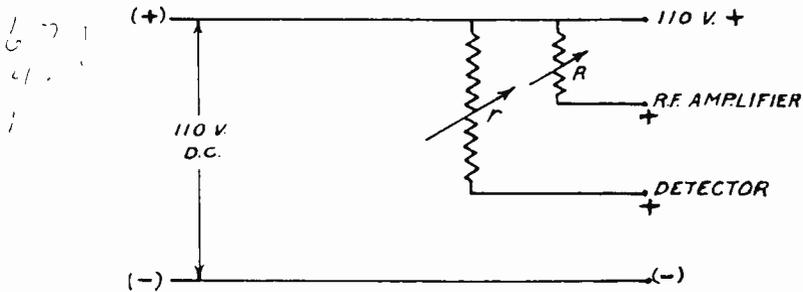
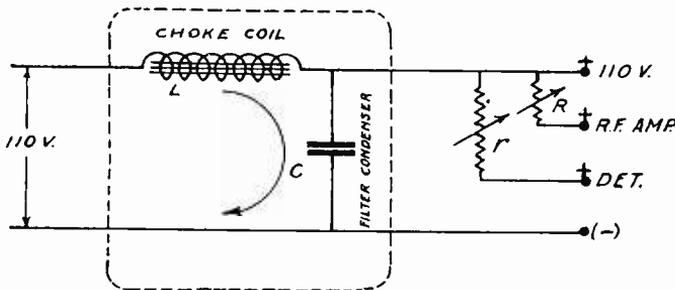
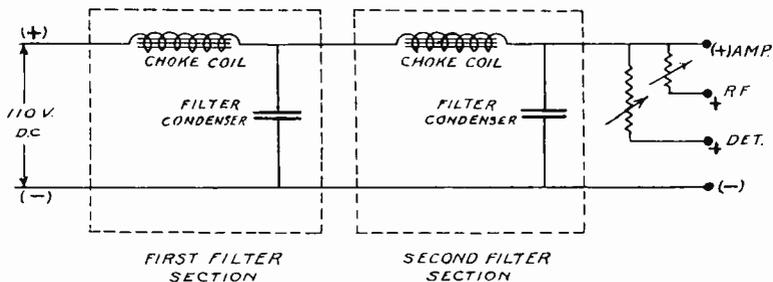
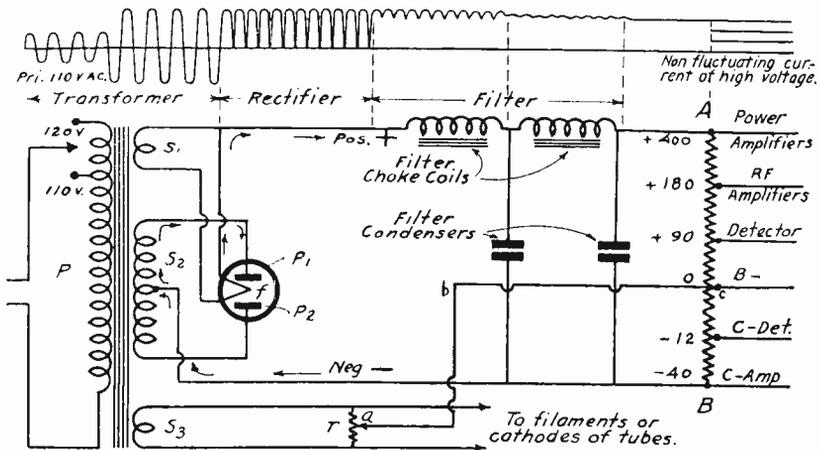

Fig. 17—Illustration Showing How Various Voltages are Obtained From 110 Volt D. C. Line.
Fig. 18—One Section Filter Arrangement for 110 Volt D. C. Line.
Fig. 19—Two Section Filter for 110 Volt D. C. Line.
Fig. 25—Schematic Diagram of a Full-Wave Rectifier Power System.
Suppose you look at Fig. 17 for a moment. This will explain the method very easily. First we have to find out how much resistance is required in the connection which goes to the R. F. amplifier (R. F. is an abbreviation for radio-frequency). Next we have to know how much current the radio-frequency amplifier tubes take. As a rule this should not be high; we may assume that about 5 milliamperes is the most they will take in a well designed receiver. Suppose also that the receiver is designed to have the R. F. tubes operate with
67.5 volts on the plates. This is all the information we need in order to find out how much resistance we need at R in Fig. 17.
This much voltage must be used up in the resistance r in Fig. 17. The value of the required resistance can be obtained the same as above, that is
simple form shown in Fig. 17. We must modify or change this arrangement in some way, so as to get rid of this noise, which is due to the variations in the generator.
As you recall, sometime ago, when we were learning about condensers and coils, we explained how the coil tries to keep up the current when it is decreasing, and how it tries to hold it down when it is increasing. We also explained how the condenser acts in just the reverse manner. It tries to increase the current further when it is increasing, and to decrease it more rapidly when it is decreasing. It seems, therefore, that some good might come if we should connect a condenser and coil in the circuit of Fig. 17, as this might cut out the noise or the hum. This is exactly what we have done, as is shown in Fig. 18.
The large coil marked L is called a *choke* coil because it “chokes” out these ripples. The condenser marked C is called a *filter condenser*. The whole arrangement enclosed by the broken line in Fig. 18 is called a *filter*, because it “filters” out the ripples. Figure 18, therefore, represents a complete “B”
Sometimes, when the ripple is very bad, that is, when the variations of the current are rather large, the filter of Fig. 18 may not be sufficient. When this is the case, it is necessary either to use a larger choke coil and condenser, or to use *two filter sections*. Such a circuit is shown in Fig. 19, where the separate filter sections are enclosed by broken lines.
direct current systems is a small one. The next problem is to devise an eliminator which will supply direct current without a ripple, when it is operated on alternating current. Let us suppose that we have a source of direct current which has quite a large ripple in it. It makes no difference where we get it, we can always apply to it the filter system of Fig. 19, and finally get the ripple out of it. Of course we may
trons, and when one or the other of the additional electrodes is charged positively, it attracts the electrons to it and a current flows through the tube. Figure 25 shows the circuit arrangement. The primary "P" of the transformer is connected as usual to the house lighting circuit. The two windings going to the rectifier tube from the secondary side of the transformer, winding S_1 supplies the high voltage, which is to be rectified, and the winding S_2 supplies the alternating current for heating the filament (or cathode) f of the rectifier. The ends of the winding S_1 are connected to the two plates of the tube. The filament, being heated, emits electrons; during one-half the cycle the plate P_1 is positive, so that the current flows through the circuit in the direction indicated by the various arrows. During the other half of the cycle the plate
There are several ways of obtaining the "C" voltages for the receiver, but for the present we will consider the rather simple method shown in Fig. 25. The output of the rectifier, after passing through the filter, sends current through a high resistance AB, which is variously known as the *output resistor* or *bleeder resistor*. Note that this is a different arrangement from that shown in Fig. 17. Many arrangements and combinations are possible.
There is a voltage of, let us say, 440 volts across the terminals of this resistor. If we require a "C" voltage of -40 volts on the grid of the power amplifier tube, we can call the lower terminal -40 volts. Then, 40 volts above this on the resistor will be the B- connection, which goes to the cathodes of filaments of the tubes. If we are using a "C" bias detector, perhaps we need a bias of -12 volts on its grid. Then this connection is 12 volts down from B- on the resistor. For simplicity we have marked the B- connection as being at zero potential. Then the plate voltages are plus and the "C" voltages are minus. Various other connections can be made to the resistor, depending upon the voltages we require in the radio receiver. Several voltage taps are shown in Fig. 25. Bear in mind that many combinations of voltages may be used, depending upon the types of tubes used and the particular design of the set.
Before concluding this lesson there remains one thing to be pointed out. That is, when current flows from the output resistor to the plate of any tube and then to the cathode or filament of that tube, it must get back to the B- connection of the output resistor. In Fig. 25 we have shown the cathodes or filament connected to the transformer winding S_3 , which supplies the alternating current for heating the cathode. We must therefore show a connection between this winding and
the B— tap on the output resistor. This connection is generally made by placing a resistance r across the heater winding, as it is called, and connecting the midpoint of this resistance to the B— tap. This is the connection abc in Fig. 25.